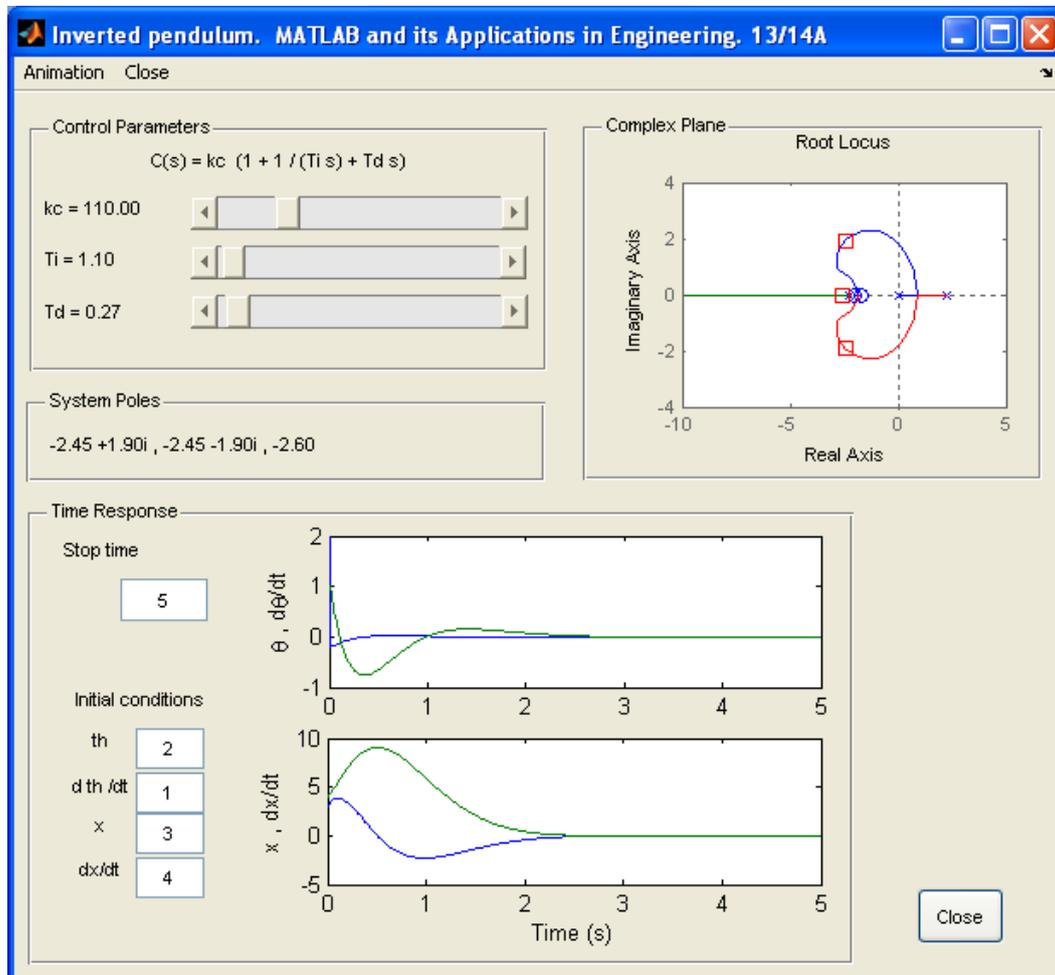

Fig. 3. GUI to be developed
Exercise 6. Graphics user interface. The objective of the practice set is to develop a GUI to study the effect in the system behavior of different selections of the values k_c , T_i , T_d . The GUI must look like the one in Fig. 3. The internal instructions must be the ones in the `inverted_pendulum.m` file (the GUI serves only as a way to change the PID parameters and see what happens to the system poles and time response).
- When the GUI is started, the initial values must be the ones shown in Fig. 3.